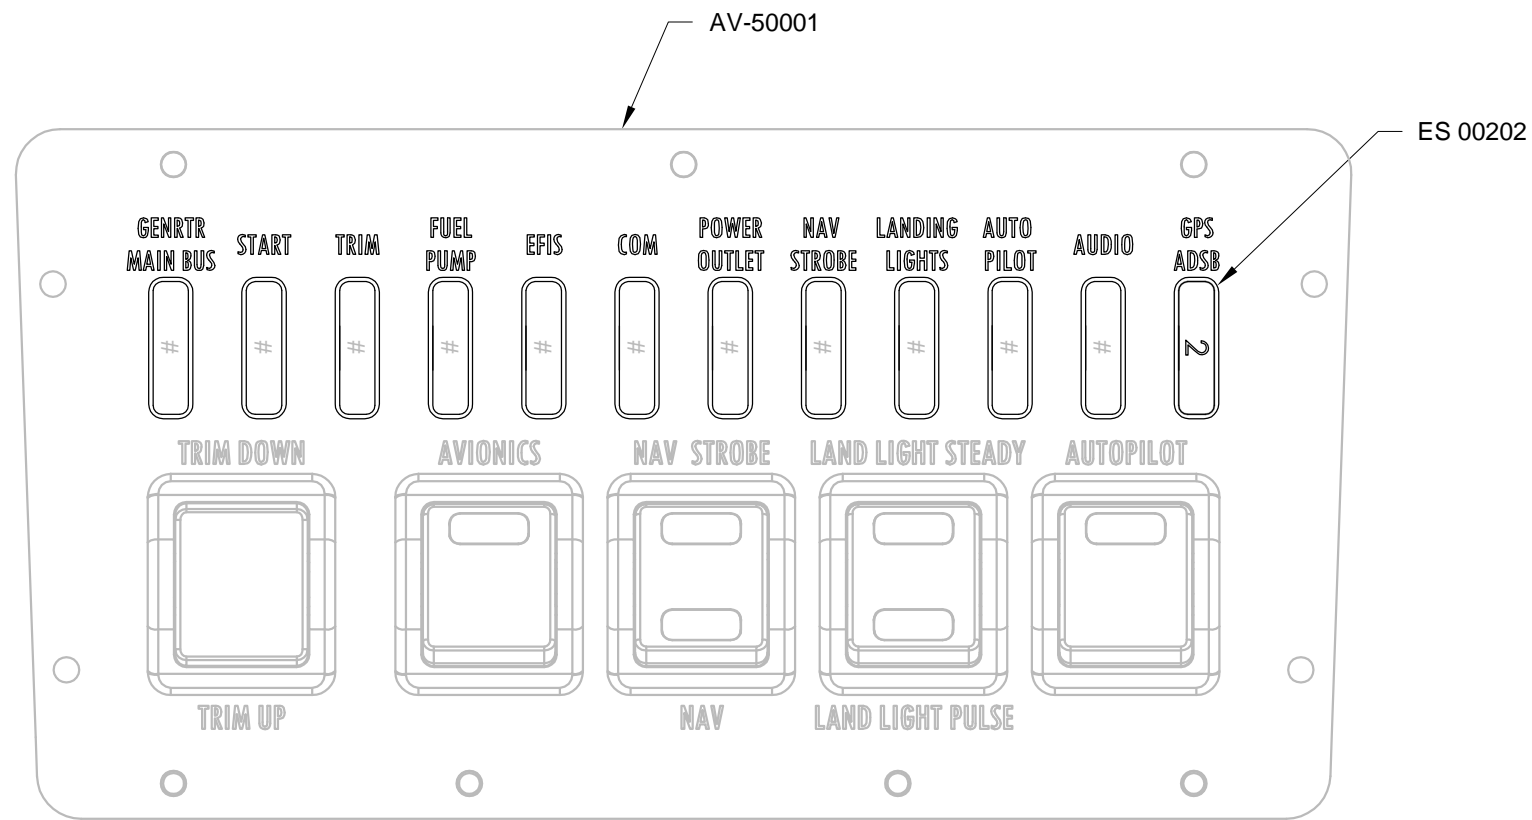

FIGURE 1: INSTALLING FUSE
Step 1: Install fuse called out in the AV-50001 Power & Switch Module as shown in Figure 1.